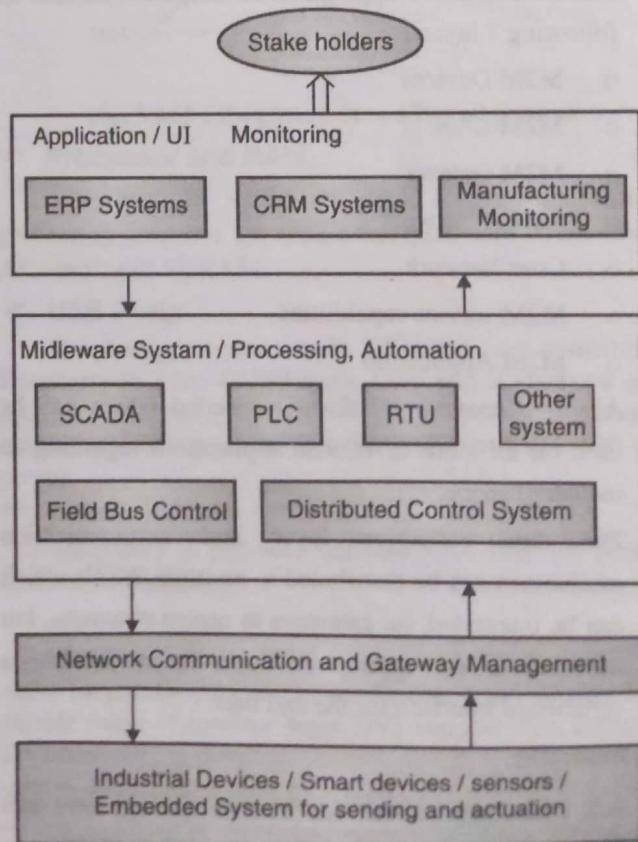

Fig. 3.9.1 : Industrial value chain
- As seen in Fig. 3.9.1, the middleware, control and automation services provide vast market scope to corporations.